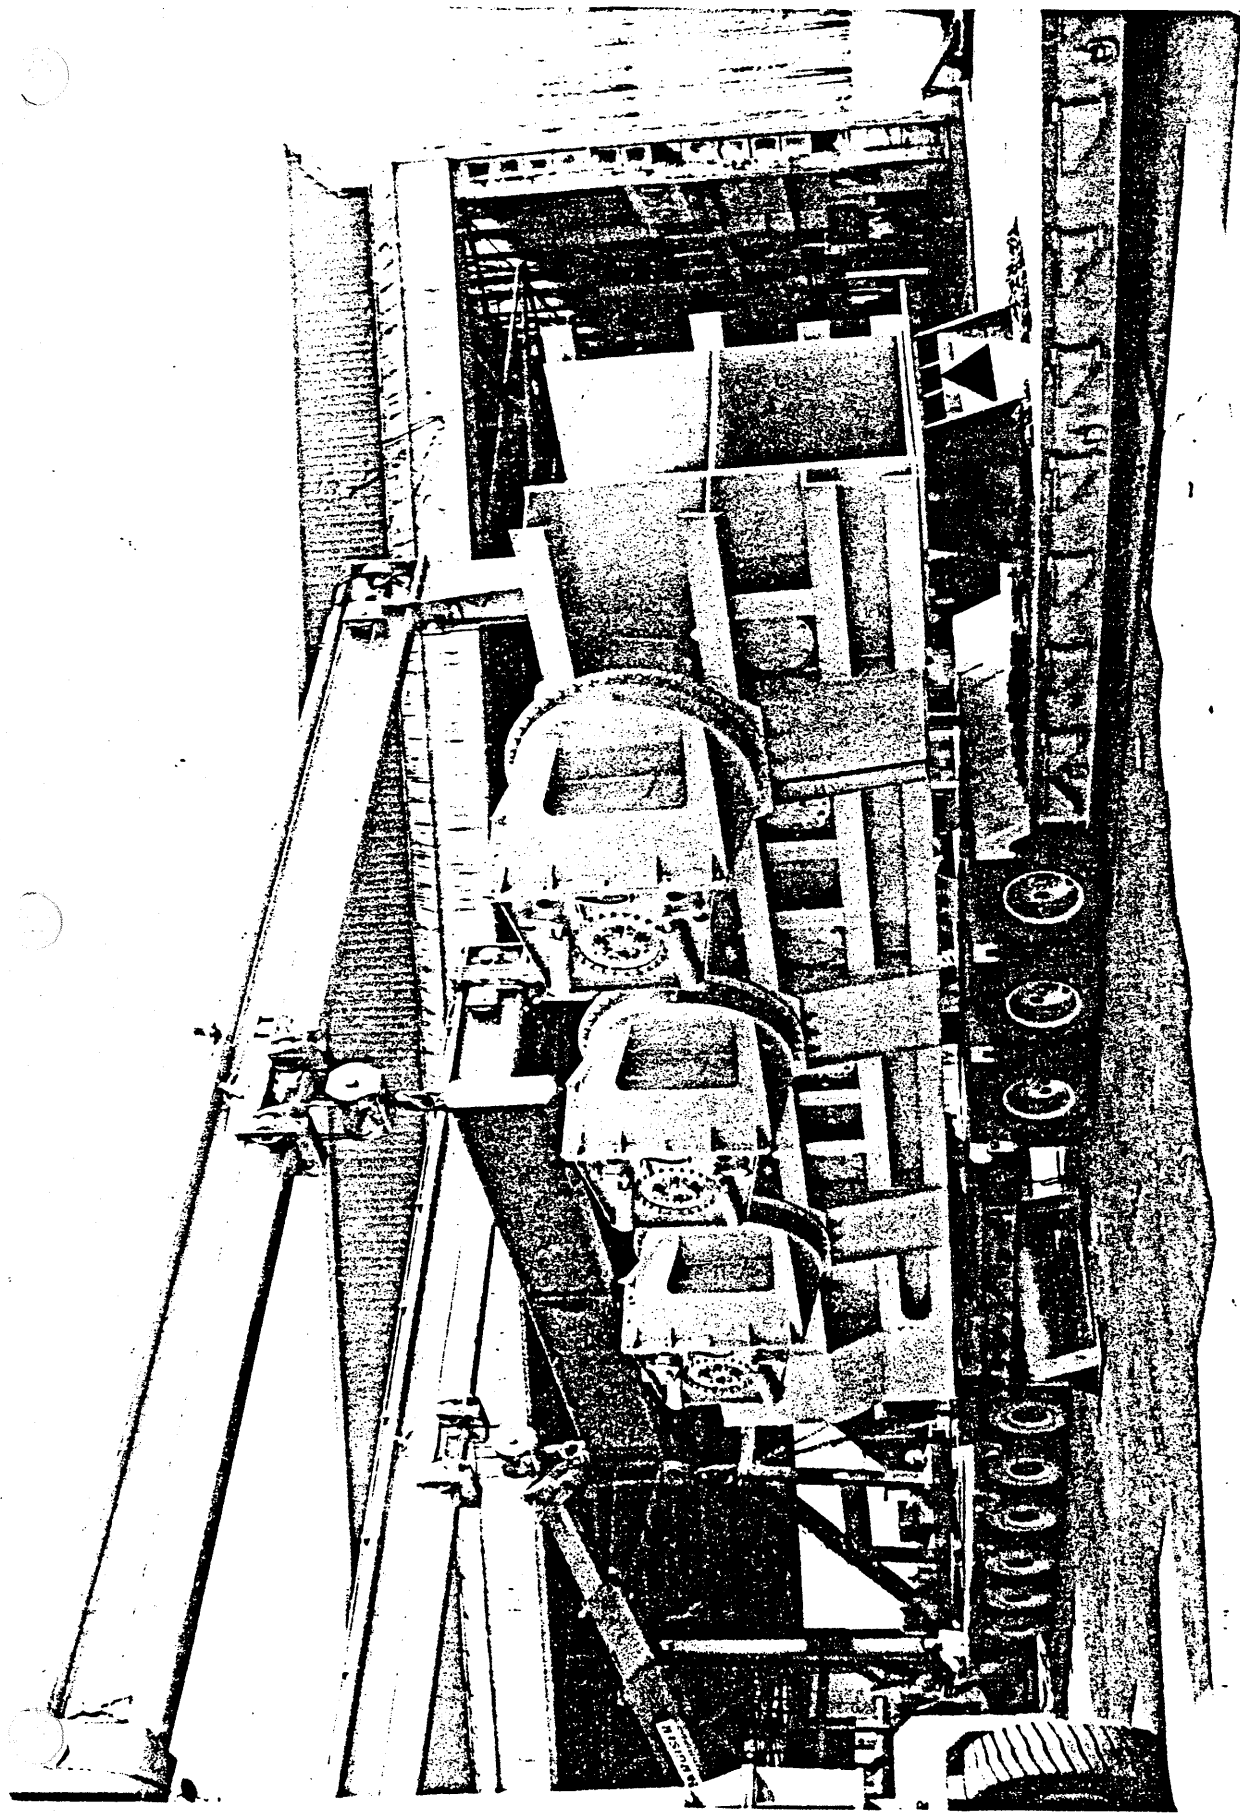

Figure 1.
2. Final drive pinions: these are used in the jacking units as in Figure 1.
Final drive pinions: these are used in the jacking units as in Figure 1.